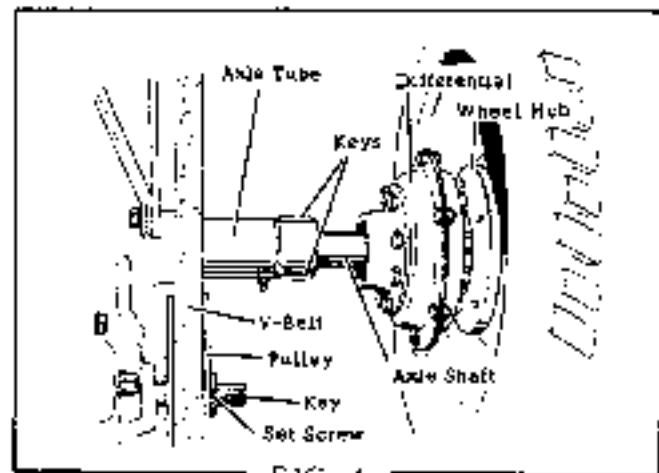

FIG. 4
7. From the right hand side of the tractor, remove the axle shaft, right hand wheel hub and differential in one piece by tapping the edge of the differential hub with a lead mallet. When the differential hub is free of the 2 keys on the transmission axle tube as shown in Fig. 4, pull the axle shaft, etc., straight out of the transmission.